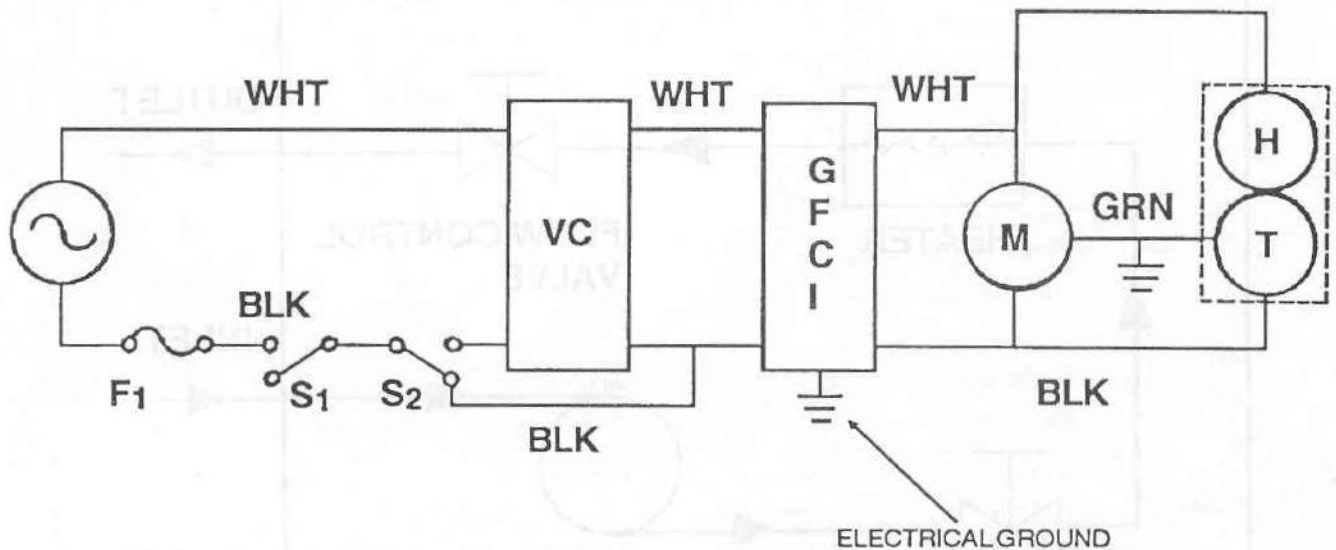
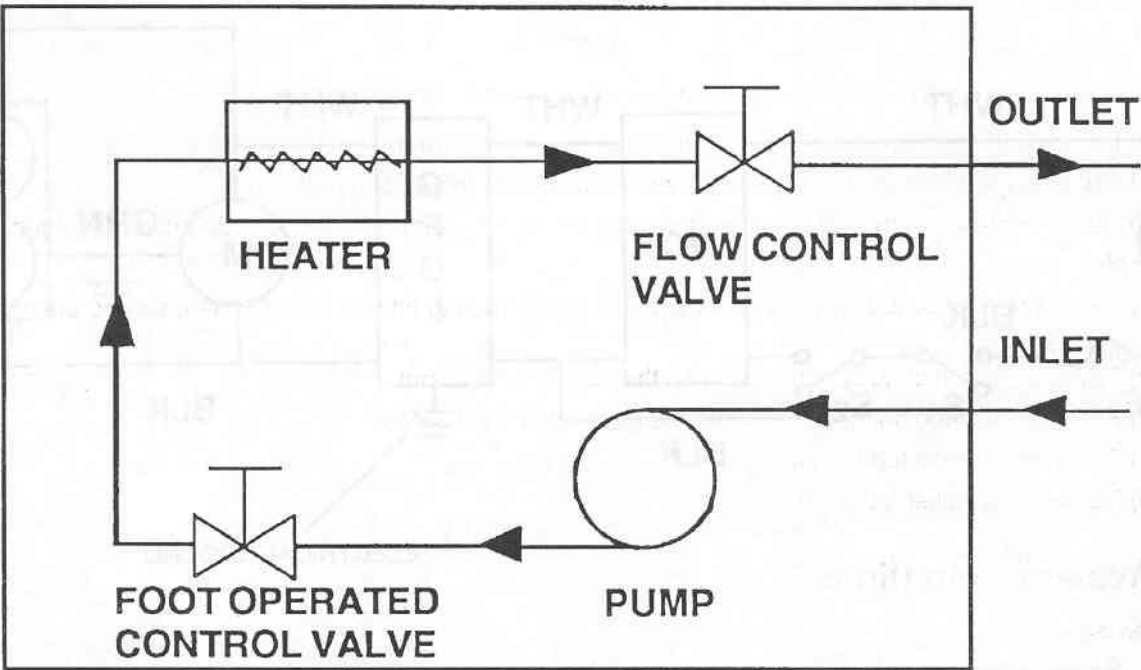

Figure 3-1. Electrical schematic.
Figure 3-3. Control box water flow diagram.
c. Three illustrations (fig 3-1 through fig 3-3) are provided to assist in the preceding general troubleshooting table and for additional detailed troubleshooting procedures as required.